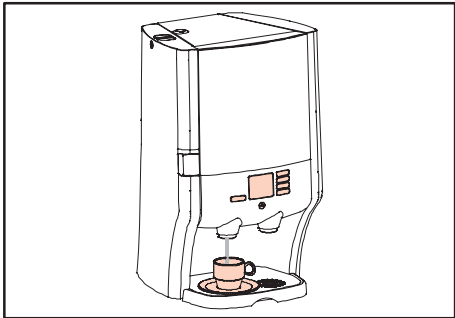

Fig. 18 Hot water outlet
1. Place a cup on the drip grid under the left-hand (hot water) outlet (fig. 18).